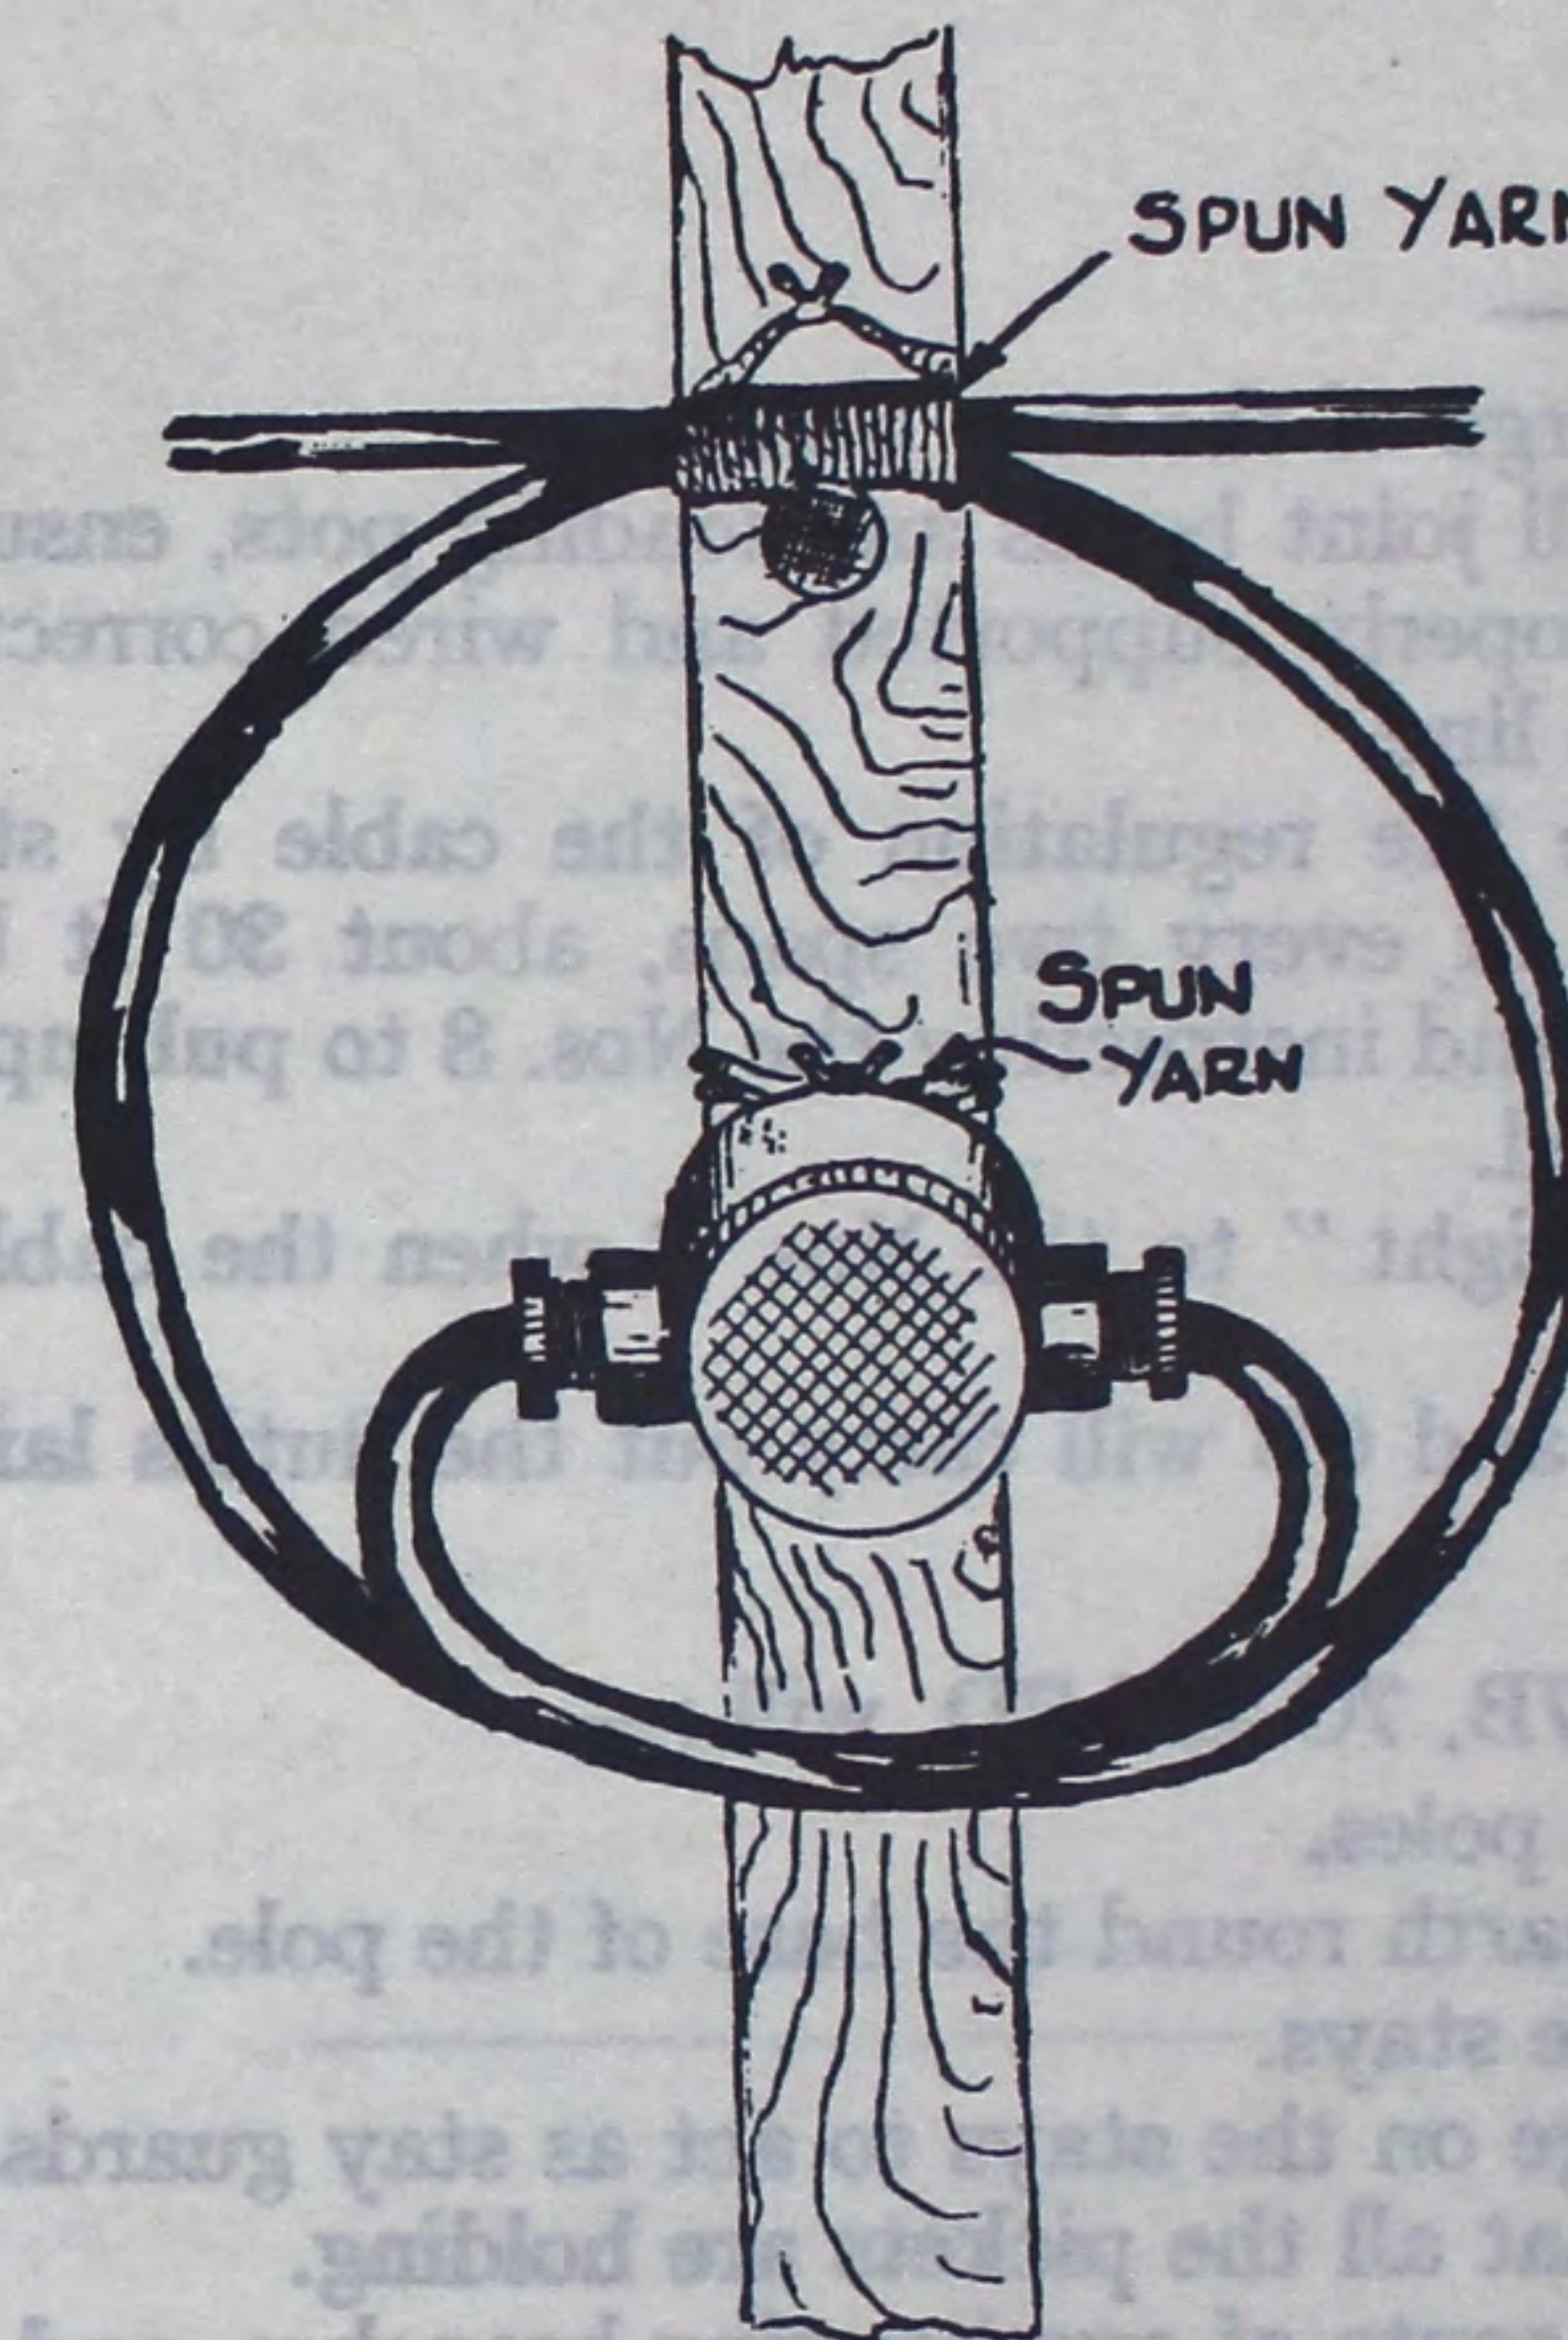

Fig 8.—Box, joint, quad cable, No. 1, mounted on a hop pole.
5. The cable must never be under tension at a joint box; the boxes must therefore coincide with, and be mounted on the poles of the route. The ends of the two cables to be jointed should be strapped together with spunyarn as shown in Fig 8, about 2 ft from the ends, and supported in the middle of the strapping on a bobbin. The ends of the cable are jointed as laid down in *Signal Training Pamphlet No. 4, Part II*, and the box tied to the pole with spunyarn.